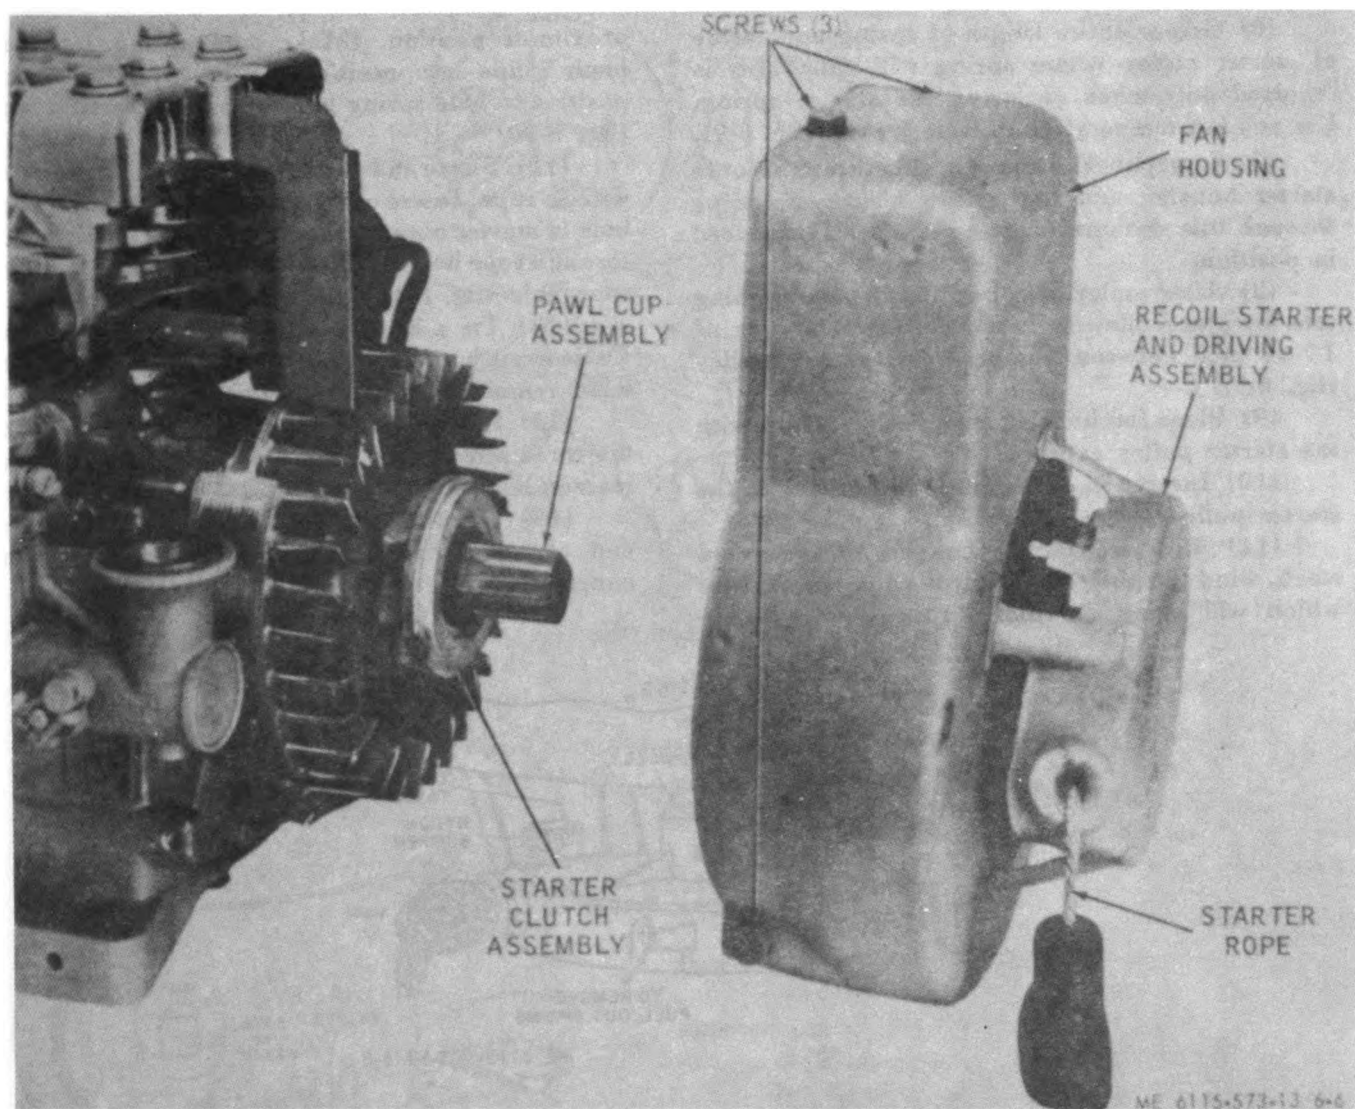

Figure 6-6. Starter and blower housing assembly, removal and installation.
a. *General.* The recoil starter (fig. 6-6) is
- (1) Remove control and side panels (para 5-5).
- (2) Remove the three screws (fig. 6-6) securing the fan housing to the engine.
(13) Tie a knot in both ends of starter rope. Untie wrench and allow tension on starter spring to wind remaining rope onto starter pulley.
(14) Replace starter housing on engine with the three screws (fig. 6-6). Complete generator set reassembly.
(c) Position blower housing on engine and secure with three screws (fig. 6-6).